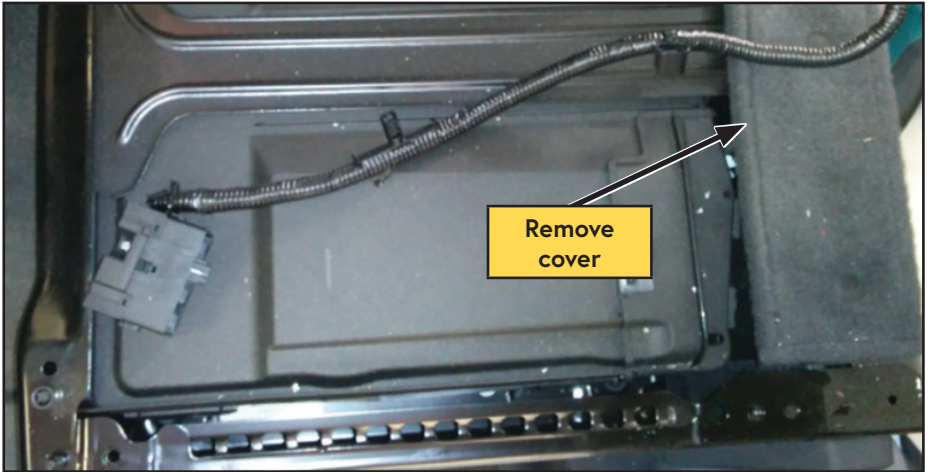

Figure 9 — Battery cover
- ❑ Remove the (x2) bolts underneath the piece of carpet at the rear of the battery cover retaining plate. Remove the metal bracket, then lift the plastic tabs on the rear of the battery cover to remove the battery cover (Figure 9).